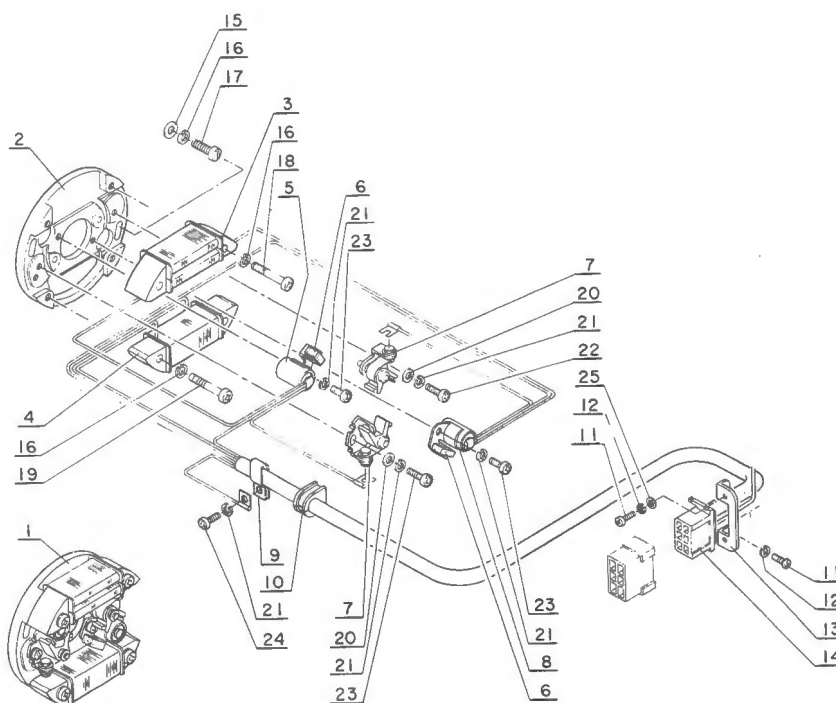

FIGURE 4-4 COIL PLATE ASSY. — EXPLODED VIEW
4.5 STATOR ASSEMBLY (See Figure 4-4)